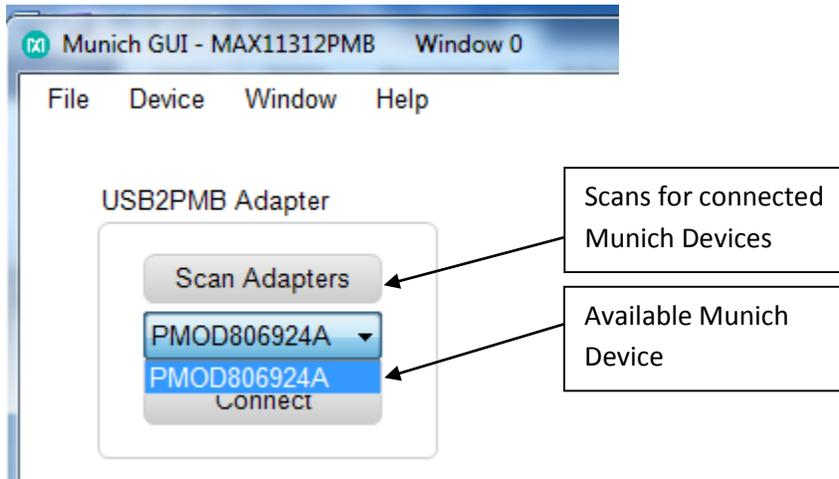

Figure 9. Connect PMOD adapter.
**Scan and Select:** Figure 9 depicts the scanning and available Munich devices connected. The software automatically identifies the device—PMOD806924A.